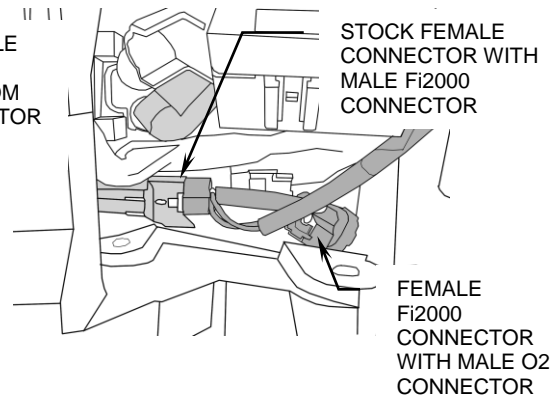

**FIGURE 2**
3. Feed the remaining portion of the wire harness forward and down through the coil bracket opening, see Figure 2. Locate the white Raider 6-pin connector behind the coil-mounting bracket; disconnect this connector.